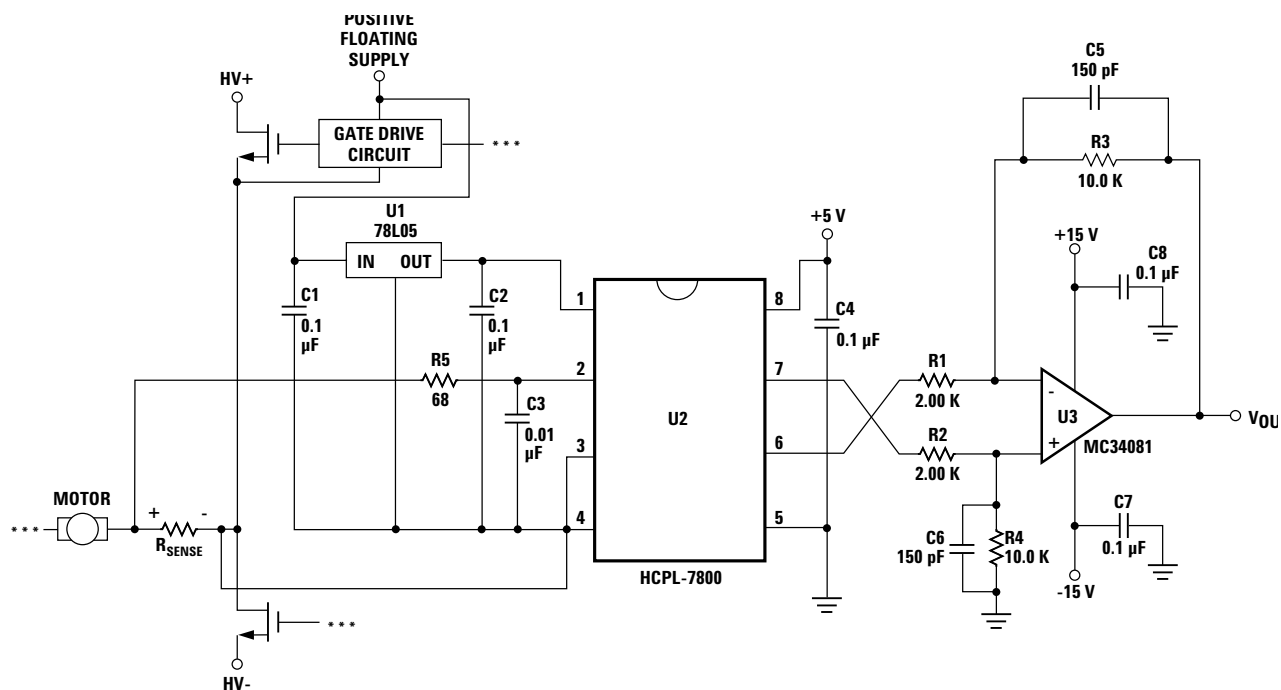

Figure 18: Recommended Application Circuit.
As shown in Figure 18, 0.1  $\mu\text{F}$  bypass capacitors (C1, C2) should be located as close as possible to the pins of the HCPL-7800(A). The bypass capacitors are required because of the high-speed digital nature of the signals inside the HCPL-7800(A). A 0.01  $\mu\text{F}$  bypass capacitor (C3) is also recommended at the input due to the switched-capacitor nature of the input circuit. The input bypass capacitor also forms part of the anti-aliasing filter, which is recommended to prevent high-frequency noise from aliasing down to lower frequencies and interfering with the input signal. The input filter also performs an important reliability function—it reduces transient spikes from ESD events flowing through the current sensing resistor.
The recommended method for connecting the HCPL-7800(A) to the current sensing resistor is shown in Figure 18.  $V_{IN+}$  (pin 2 of the HCPL-7800(A)) is connected to the positive terminal of the sense resistor, while  $V_{IN-}$  (pin 3) is shorted to GND1 (pin 4), with the power-supply return path functioning as the sense line to the negative terminal of the current sense resistor. This allows a single pair of wires or PC board traces to connect the HCPL-7800(A) circuit to the sense resistor. By referencing the input circuit to the negative side of the sense resistor, any load current induced noise transients on the resistor are seen as a common-mode signal and will not interfere with the current-sense signal. This is important because the large load currents flowing through the motor drive, along with the parasitic inductances inherent in the wiring of the circuit, can generate both noise spikes and offsets that are relatively large compared to the small voltages that are being measured across the current sensing resistor.